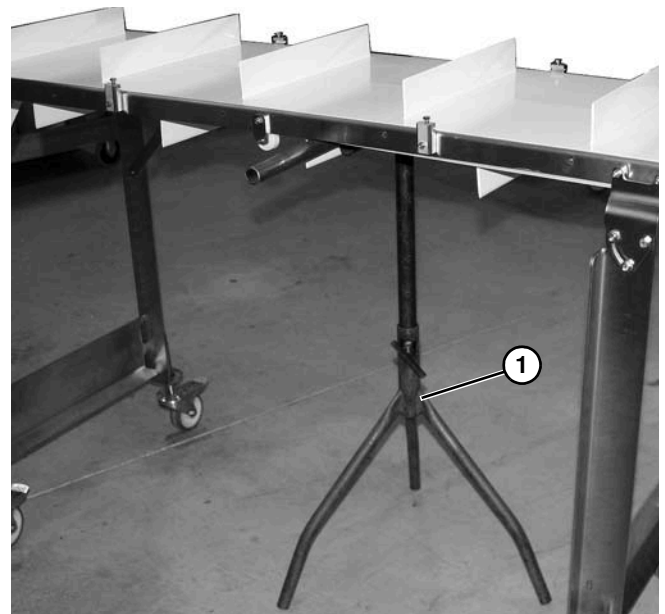

Figure 50
3. Place temporary support stands (**Figure 50, item 1**) at both ends of the conveyor. Place an additional support stand under the drive motor, if equipped. See **WARNING**.